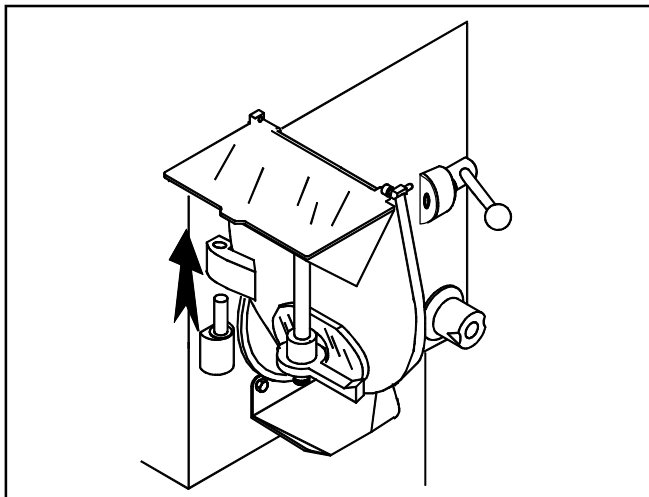

Figure 31
- Lift the door and remove it (ref. Fig. 31).